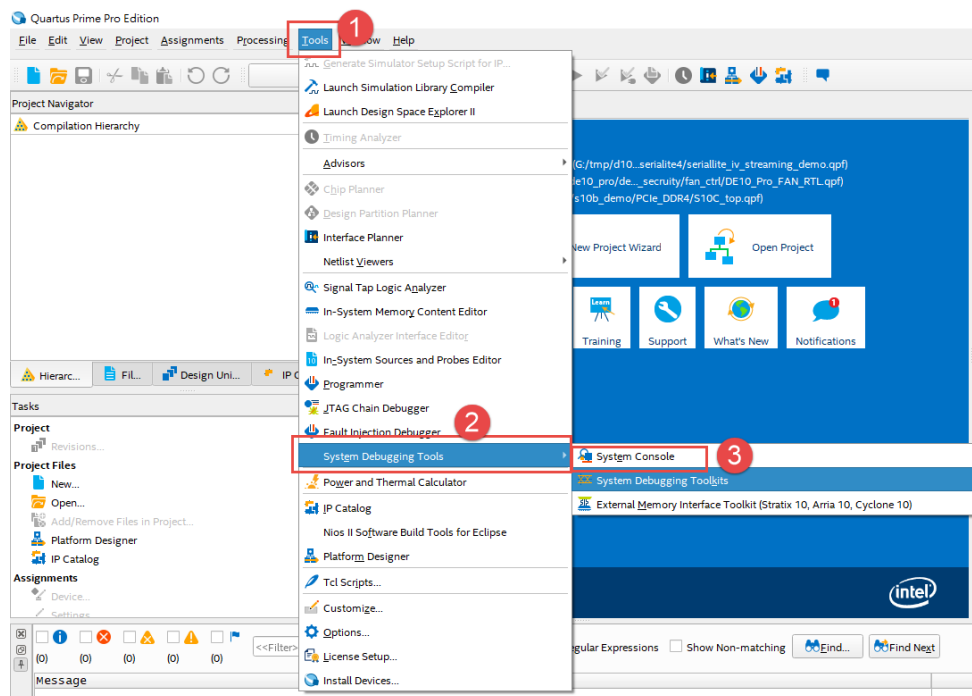
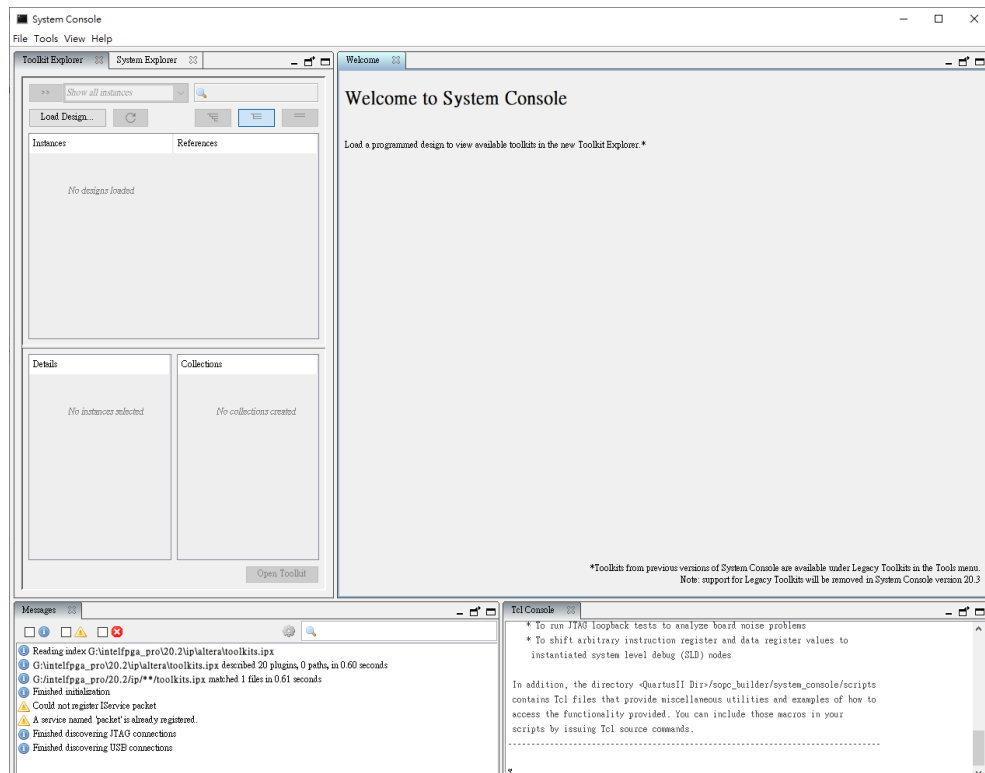

Figure 9-17 Open the System Console
Figure 9-18 System Console
4. Open the Intel® Quartus® Prime Pro Edition software, select **Tools > System Debugging Tools > System Console** to launch the system console (See Figure 9-17 and Figure 9-18).